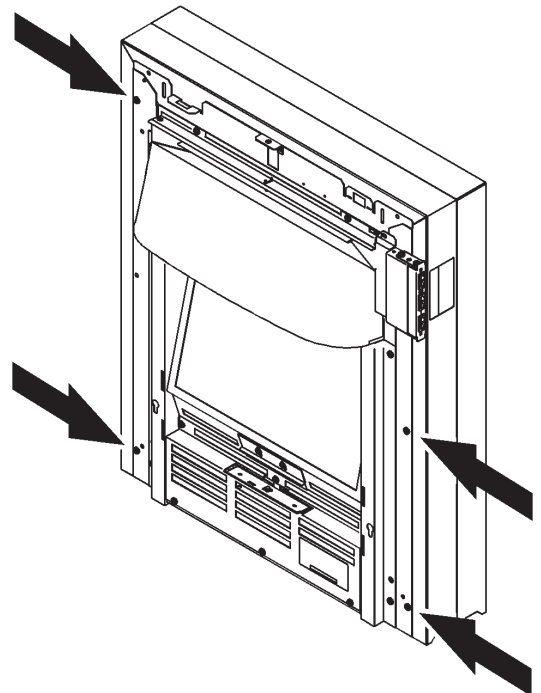

Figure 9. Fitting the optional spacer frame to the firefront
1. There are four screws supplied with the optional spacer frame. The narrow flange of the optional spacer should be placed against the spacer supplied with the firefront. Screw the optional spacer frame to the one supplied with the firefront (See figure 9).
2. Secure the spacer frames to the firefront using four No.8 x 3/8 screws supplied (See figures 9 and 2).